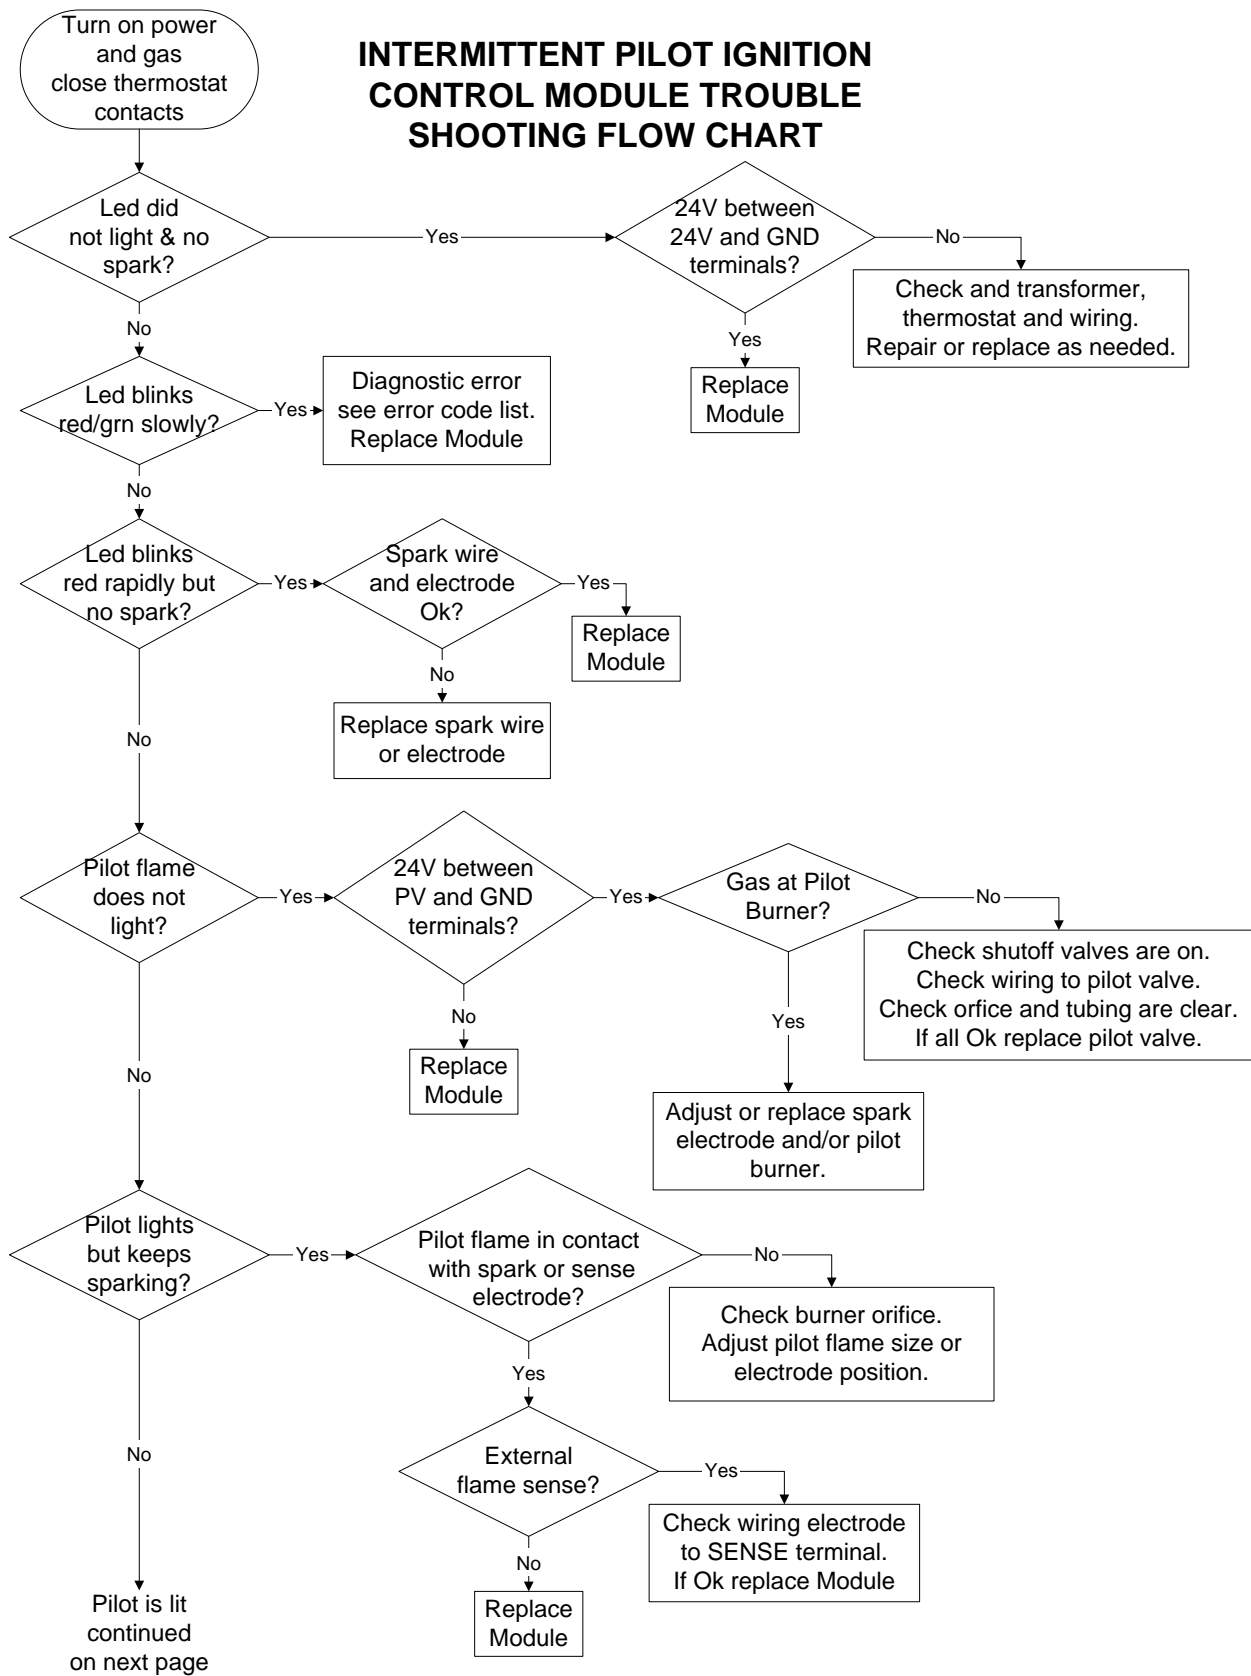

Figure 8 Troubleshooting Flow Chart Part 1
2. With gas shut off, turn on power to appliance with thermostat contacts closed. Verify led on module flashes rapidly and that there is a good spark at the pilot burner. If spark is not present see troubleshooting flow chart figure 8.